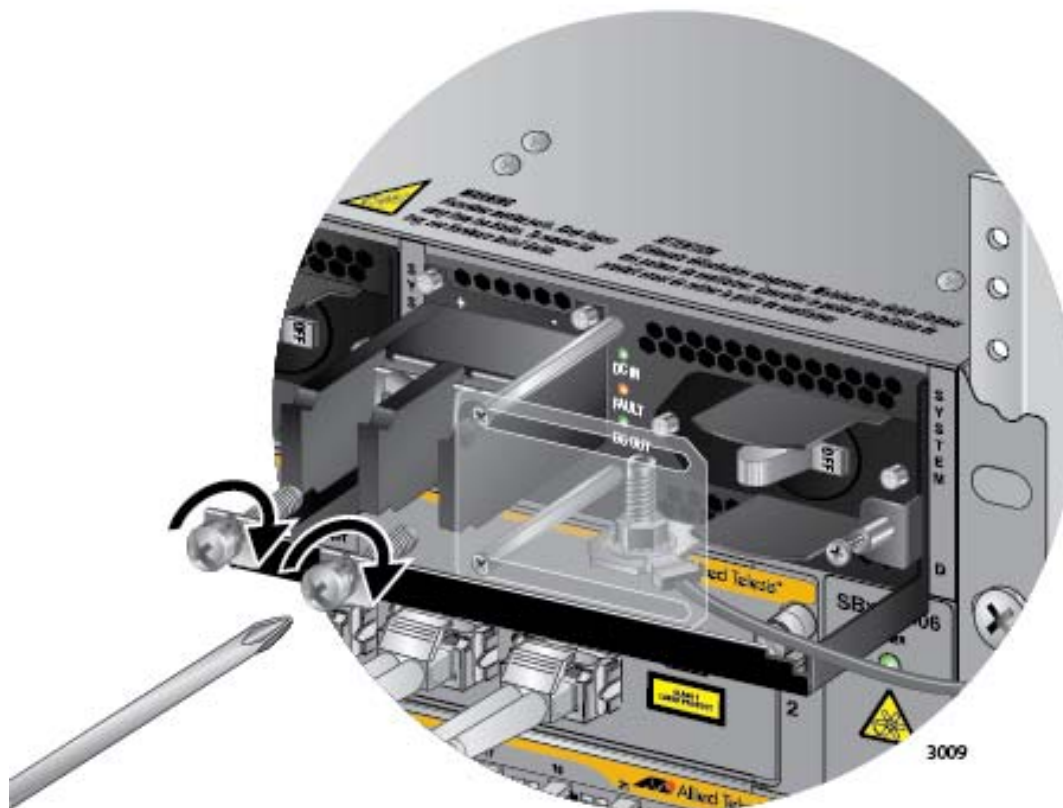

Figure 140. Reinstalling the Screws on the Positive and Negative Terminals
7. Reinstall the two screws on the negative (-) and positive (+) terminals. Refer to Figure 140 on page 224.